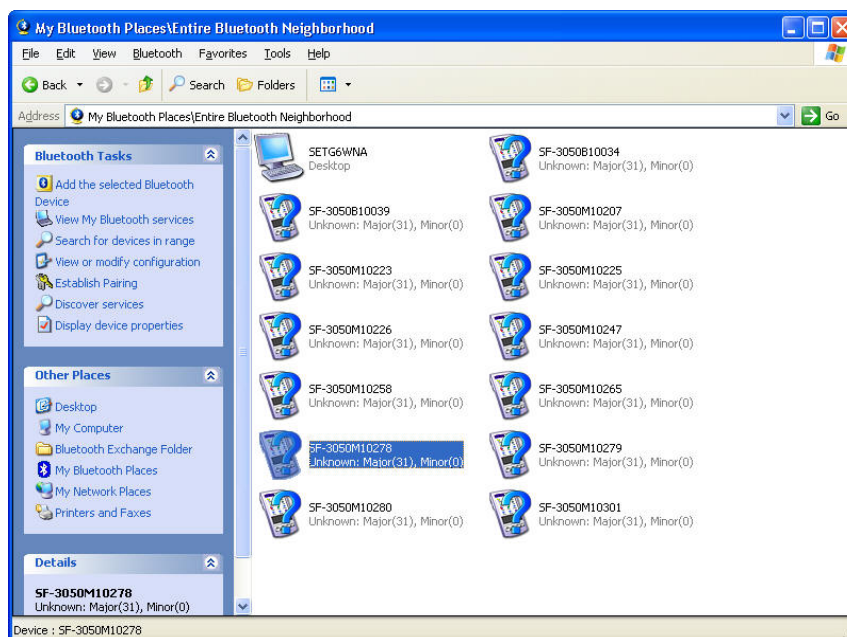
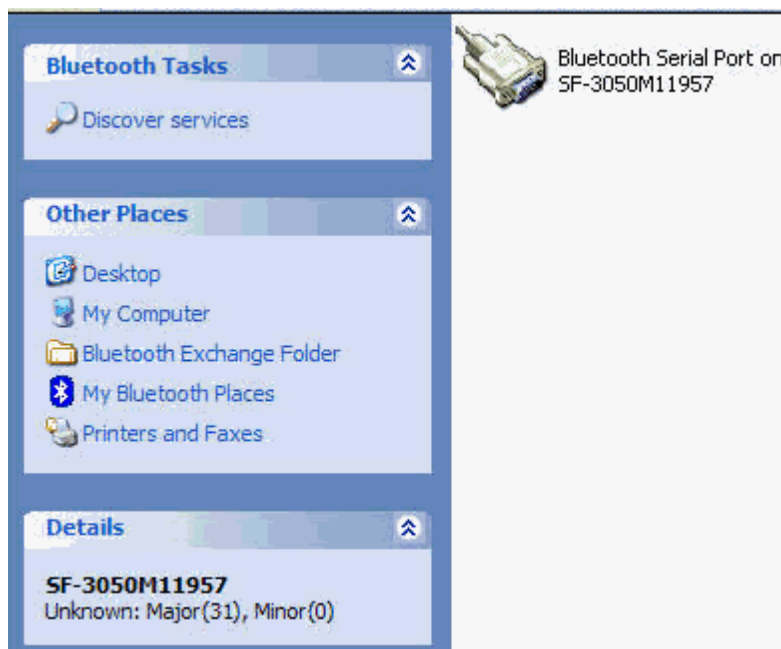

Figure 42: My Bluetooth Places\Entire Bluetooth Neighborhood
Figure 43: Bluetooth Serial Port Icon for Selected Receiver
5. Double-click Search for devices in range on the My Bluetooth Places dialog box to display a list of in-range Bluetooth devices (see Figure 42).
- Double-click the desired SF-3040 or SF-3050 receiver in the Bluetooth list (see Figure 42). A Bluetooth Serial Port icon for the selected receiver is displayed (see Figure 43).
9. To verify the assigned COM port, right-click the Bluetooth serial port icon (refer to Figure 43) and select *Properties* on the pop-up menu (the *Bluetooth Properties* dialog box opens).